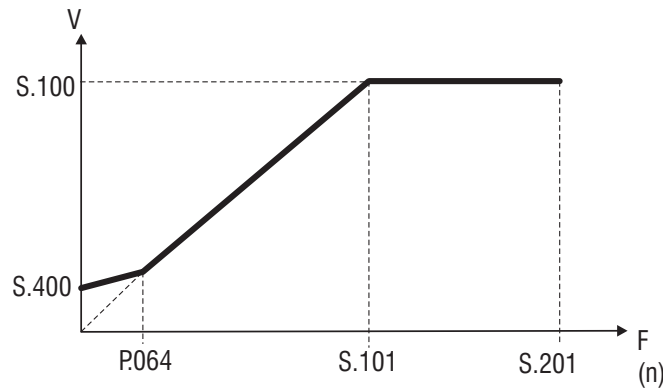

Figure 7.3.3: Manual Boost Voltage
P.064 parameter represents the return point of the output voltage, on the linear characteristic of V/f ratio (see figure 7.3.3).